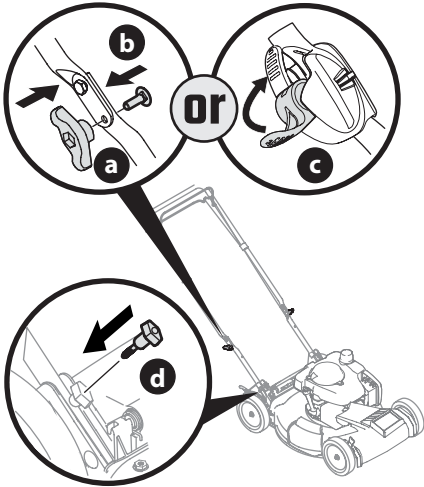

Figure 4
5. Reattach knobs or wing nuts (a) and carriage bolts (b) removed in STEP 2 into lower holes of the handle or lock the EZ-fold handle release levers (c) (Figure 4).
6. Insert the T-bolts (d) removed in STEP 4 through the handle brackets and lower handle (Figure 4) and tighten securely to secure the handle in place.